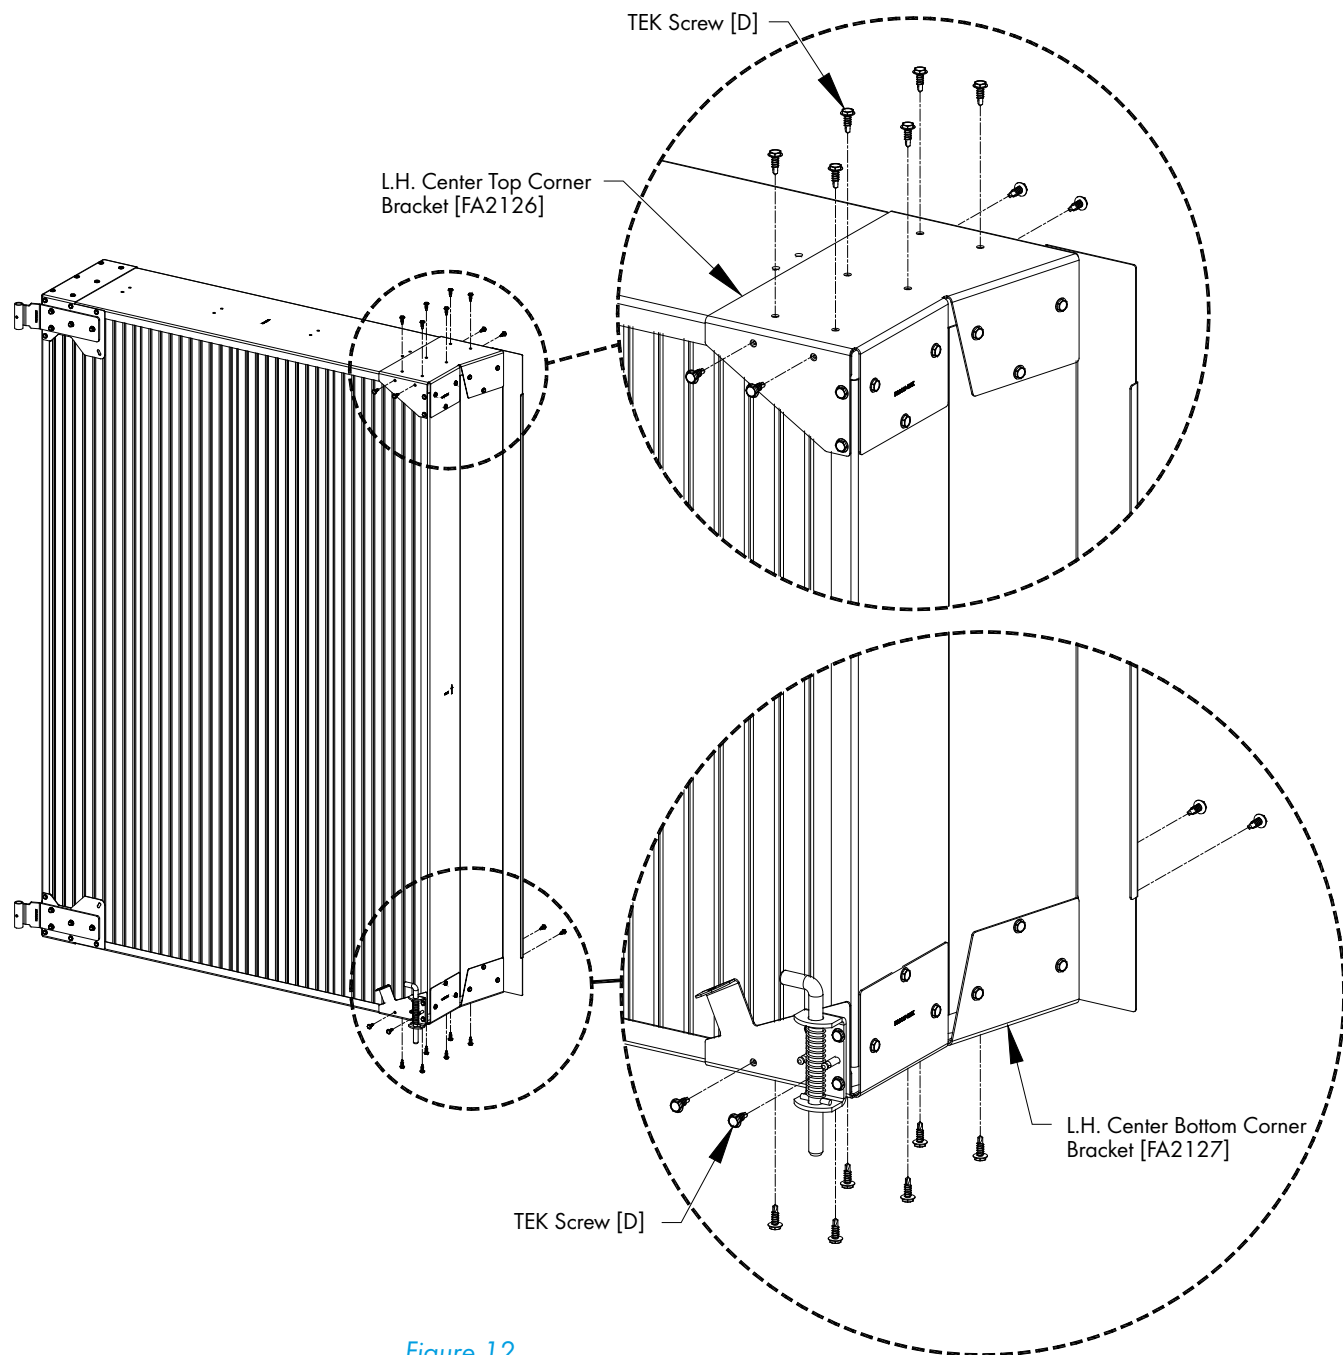

Figure 12
Place the Assembly from the previous step over the L.H. Door to hold the Light Trap in place, so that the Spring Latch is at the bottom on the same side as the Leaf Hinge and fasten in place using (10) TEK Screws [D] in the Top Corner Bracket and (10) TEK Screws [D] in the Bottom Corner Bracket. *See Figure 12.*